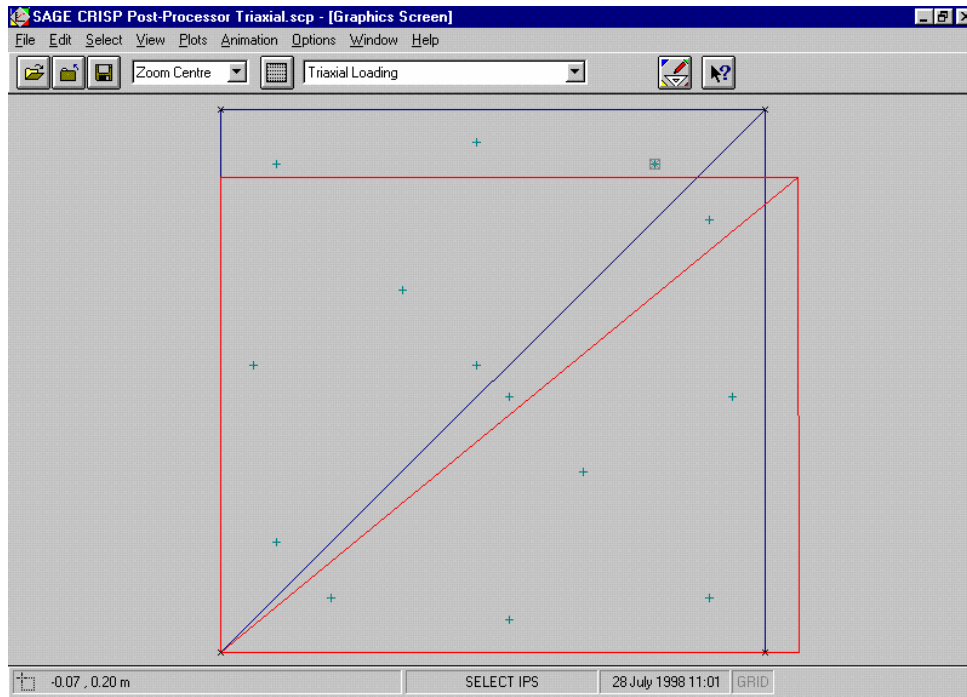

Figure 3-24: Deformed Mesh Plot
- Step 6** Click on **OK** to exit once you have finished. The plot will be displayed on the Graphics Window. Once a zoom window has been executed to view the area of interest, the plot will appear as shown in Figure 3-24.